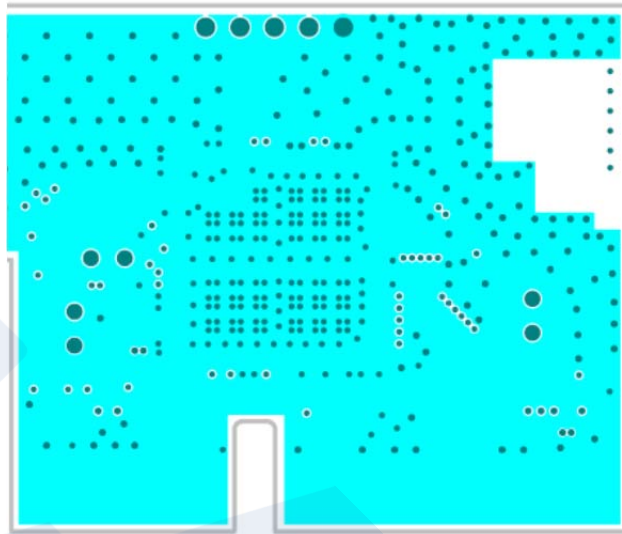

Figure 9-2 Module Layout : Layer-2 (Solid GND)
- Have a complete ground pour in layer 2 for thermal dissipation. (See Figure 9-2)
- Have a solid ground plane and ground vias under the module for stable system and thermal dissipation. (See Figure 9-2)